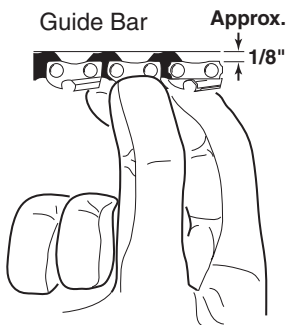

Figure 7 - Correct Chain Tension
4. Pull chain away from the bottom of the bar approximately 1/8 inch (links should not come out of guide bar groove) and let go. The chain should return to rest against the guide bar rail (see Figure 7).